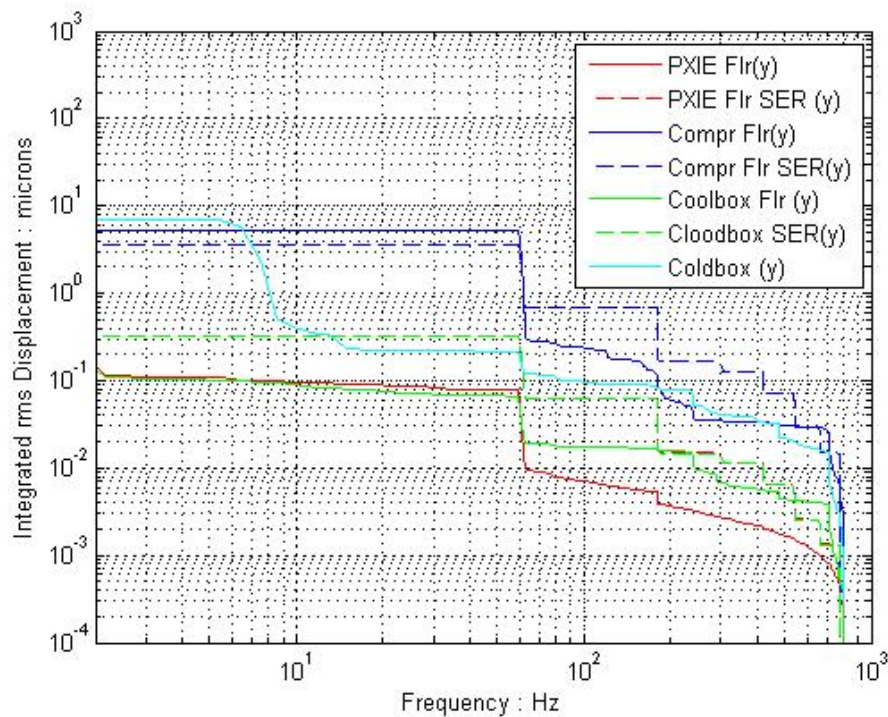

Figure 1: CMTF Integrated Vertical Displacement
The vibration environment of PXIE and CMTF has been measured [2]. A representative integrated vertical displacement plot is given in Figure 1. In the area of PXIE, vertical ground motion is approximately 100nm RMS, and is dominated by a 60Hz term.
2. **Avoid natural frequencies near 60Hz and harmonics:** As can be seen in Figure 1, there is very large excitation at 60Hz.